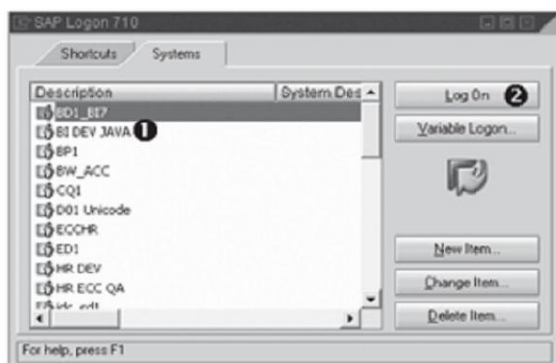

Figure 2.6 SAP Logon Pad
1. From the Windows START menu, follow the path PROGRAMS • SAP FRONT END • SAP LOGON. You see the SAP logon pad, as shown in Figure 2.6.
2. The SAP login pad displays the SAP systems configured for access on your Windows system; select the SAP NetWeaver BW system you want to access (❶ of Figure 2.6).
3. Click on the Log On button (❷ of Figure 2.6), and you'll get the SAP Logon screen, as shown in Figure 2.7.